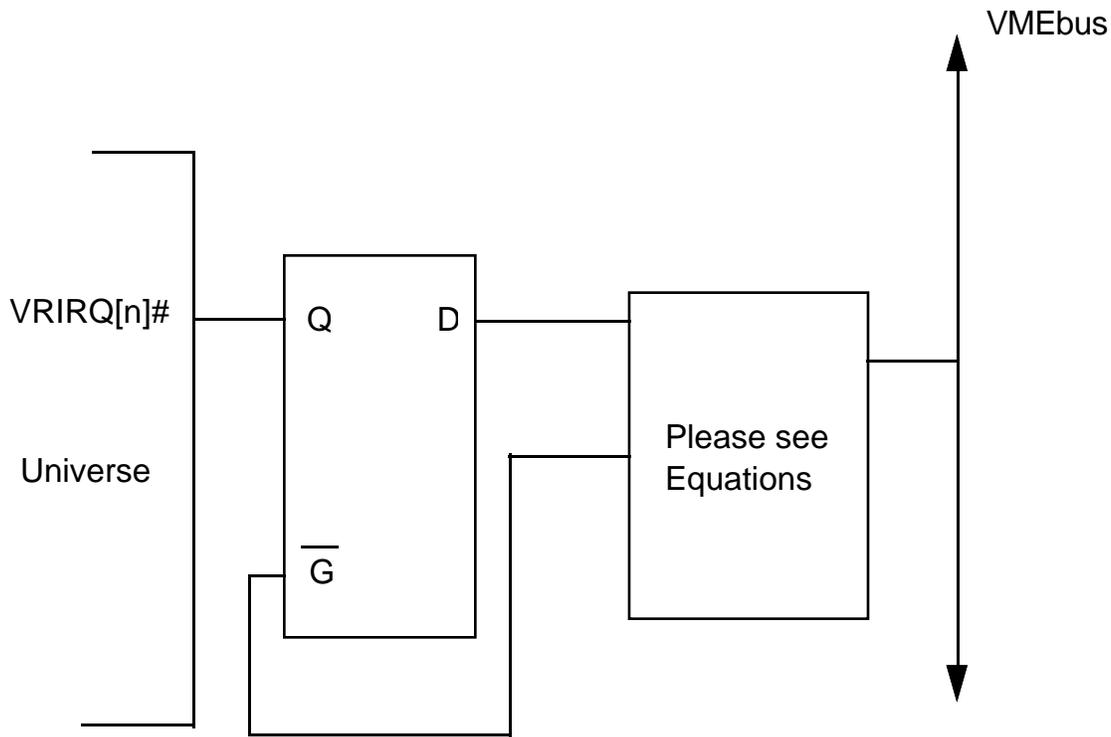

Figure 1.6: IRQ workaround for both requester modes
- 3) The following suggestion, detailed in Figure 1.6, involves using a transparent latch, along with some logic gates, to prevent the Universe from seeing an interrupt during the vulnerable error window. Once implemented, it will work for both of the Universe's requester modes (Release on Request as well as Release on Demand). The latch should be transparent when the following is true: